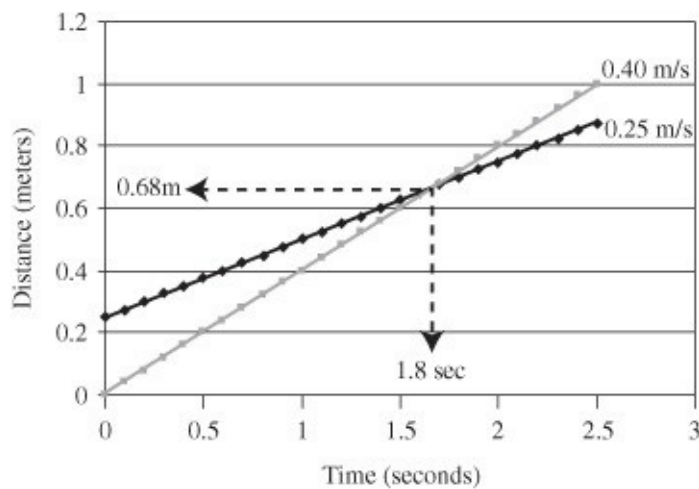

Figure 3-2 Faster car passes the slower car where and when lines cross.
- See Figure 3-2, which shows a slower car going at 0.25 meter per second car given a 0.25 meter head start in front of a faster car going 0.4 meter per second. (Notice the slower car is predicted to overtake the faster car at a point that is 0.68 meters from the starting point and 1.8 seconds after the race starts.)
1. If you have two motion sensors, focus one on the faster car and the other on the slower car. This generates a similar curve as shown in Figure 3-2. If the cars are moving *away* from you a similar curve will be produced, except the slope will be positive.